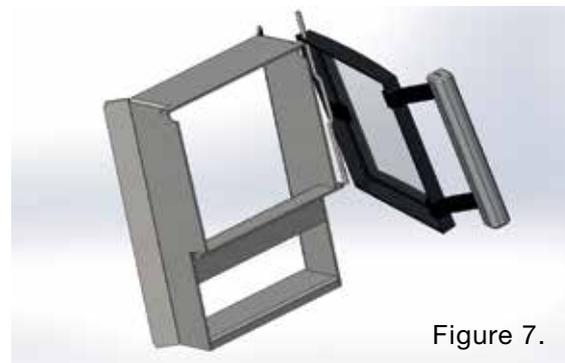

Figure 7.
Figure 7. Open the door and raise the hinge pin up so it comes out of the bottom hinge barrel. Hold onto the door securely and turn the bottom part of the pin and turn the bottom end of the pin up enough (2) that you can pull the pin down (3) and the pin and door come apart. For installation proceed in reverse order. First push the upper edge of the door in its place and thereafter push the pin through the upper eyelet. Thereafter turn the door and pin in their places from below and let the pin into the bottom eyelet. The pin is correctly installed when the wider areas of the pin are facing down. In this case the pin cannot move away from its place. Door installation is easier when you use long flatnose pliers.